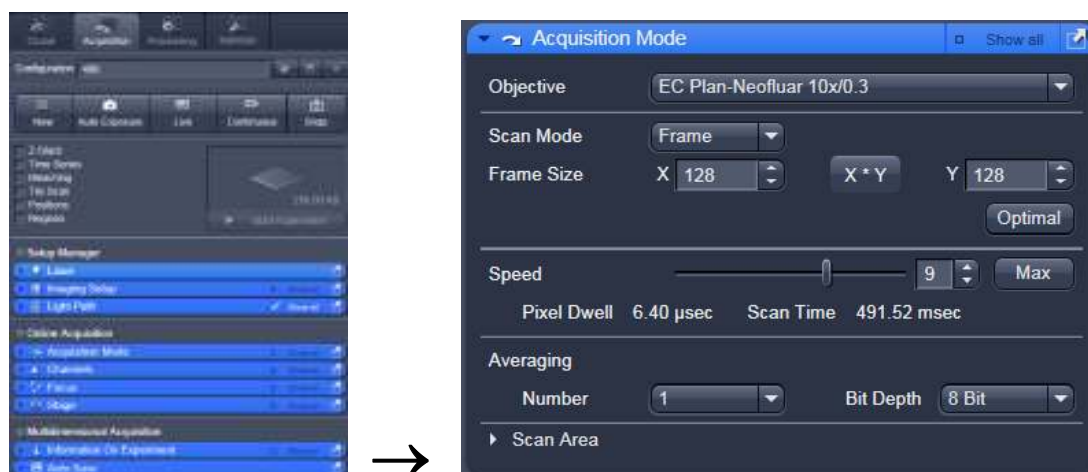

Fig. 18 Acquisition Mode tool
- Select the **Acquisition Mode** tool from the **Left Tool Area** (Fig. 18).
- Use the **Scan Speed** slider in the **Acquisition Mode** tool (Fig. 18) to adjust the scan speed.
- Select the dynamic range 8 or 12 Bit (per pixel) in the **Bit Depth** pull down in the **Acquisition Mode** tool (Fig. 18).